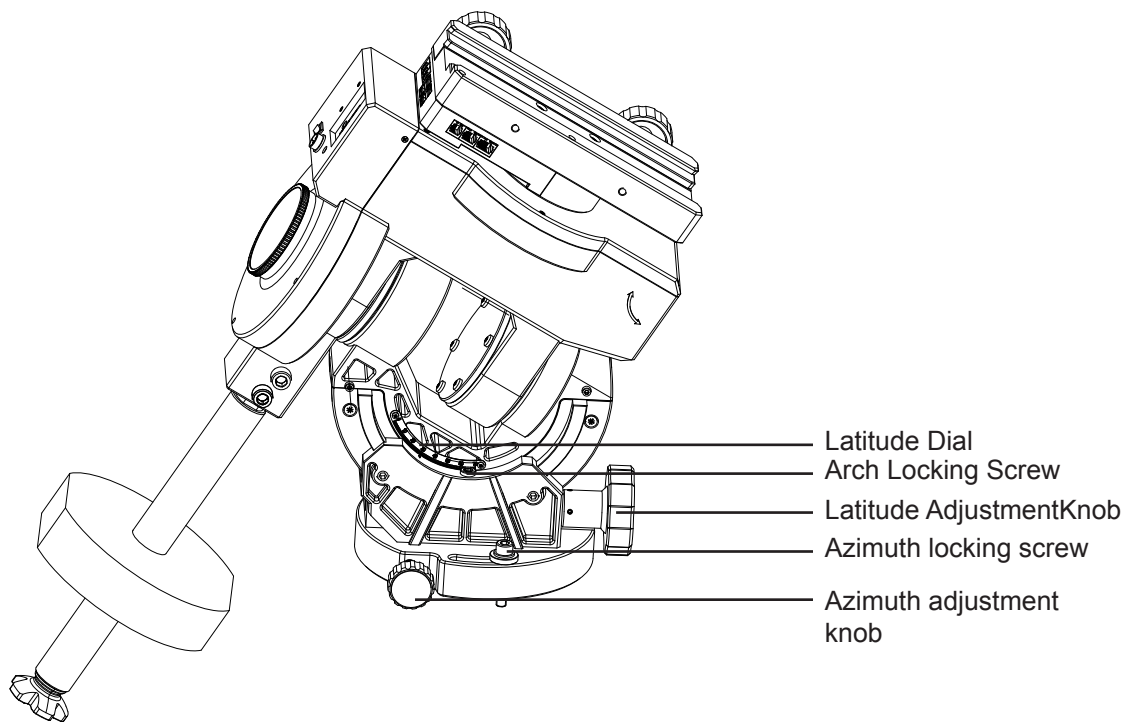

Fig. 2.1a
2. Slightly loosen the tripod's upper knob and both azimuth locking screws and then use the azimuth adjustment knobs to put the azimuth locking screws to the middle of the slots (Fig 2.1a). Tighten the azimuth locking screws slightly.
3. Loosen the arch locking screws (Fig 2.1a) on both sides of the CQ350-PRO mount, and then tighten them slightly.
6. Install the handle on the latitude jackscrew and use it to set the latitude dial reading to local latitude (Fig 2.1a).